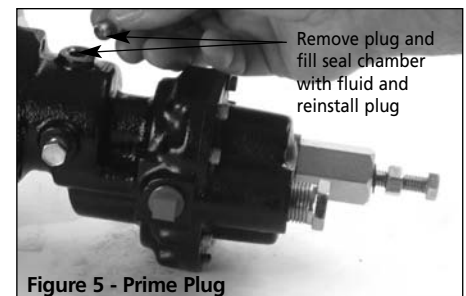

Figure 5 - Prime Plug
1. All pumps must be primed before start-up and the seal chamber needs to be filled (See Figure 5). Never operate a pump unless it is secured to a solid foundation and all safety shields are installed.
- a. For fluids with viscosities less than 2000 SSU, a flush is not necessary, but the seal cavity must be pre-filled with either the operating fluid or a neutral fluid. This is to ensure seal cooling and lubrication during start-up (See Figure 5).